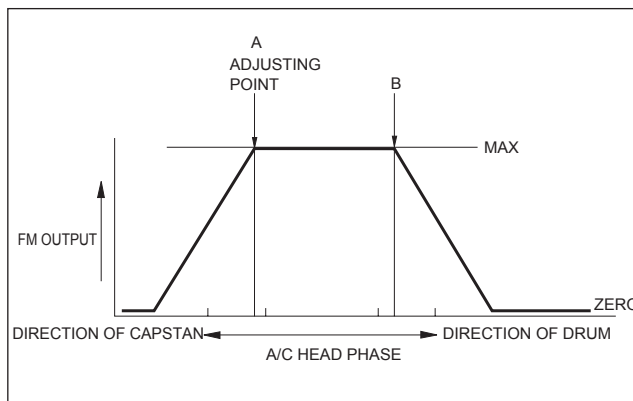

Fig.3-3-9
- (1) Connect the JIG CONNECTOR CABLE to CN25 on the MAIN BOARD ASSEMBLY.
- (2) Playback the SP staircase signal of the alignment tape and observe signal at V_TP_FM with external trigger from V_FF on the JIG CONNECTOR CABLE.
- (3) Operate the tracking button in the center and manual tracking mode by pressing the tracking (+) and (-) buttons and confirm that the FM output level is maximum at the center position as shown in Fig. 3-3-9.
- (4) If necessary, slightly loosen the setscrews **D** and **E** and insert the Tweezers into the notch and guide hole to move the A/C HEAD fully in the direction of the capstan to the extent.
- (5) Gradually move the A/C HEAD toward the drum to find the position where the FM output level maximum for the first time (a' - b' in Fig. 3-3-9).
- (6) Fine adjust the phase of the A/C HEAD and tighten the screws **D** and **E** at the point a.